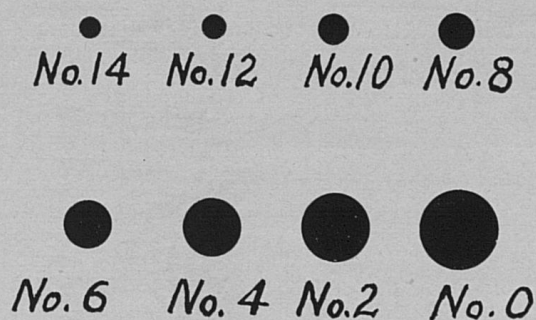

FIGURE 19. Wire sizes. The exact sizes of wires are shown by shaded circles.
*Size of Wire.* The size of wire is specified by a number. (See Figure 19.) The number decreases as the size increases. Sizes 16 and 18 are used in drop cords and for extension cords for lamps. Formerly, size 14 was commonly used for all branch lighting circuits in wiring houses, but the increasing use of more appliances